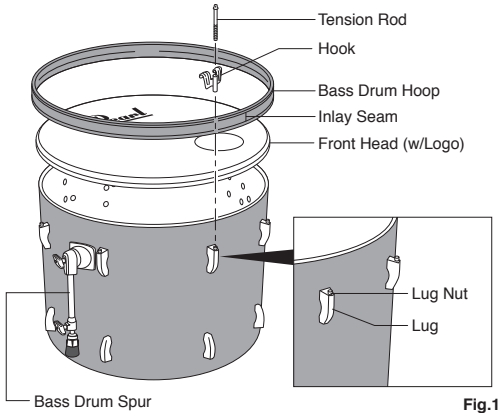

Fig.1
1. Place the shell with the bass drum spurs facing upward on a clean, solid surface. Put the Pearl logo head on the shell, followed by the hoop with the inlay seam positioned between the bottom two lugs (Fig.1).